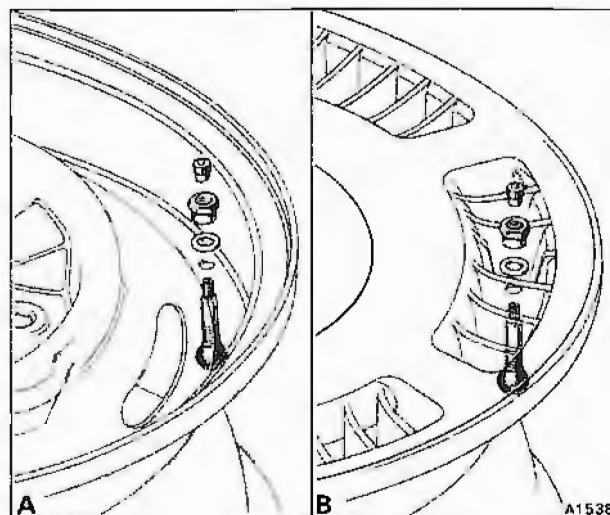

Fig. R3-1 Clamp-in tyre valves
3. Insert the valve into the hole in the wheel rim, then fit the valve securing nut and washer (see fig. R3-1). When fitting a new valve, **do not** use tyre bead lubricant or grease of any kind. Using a 14 mm ($\frac{9}{16}$ A/F) long reach socket, torque tighten the nut to between 2,9 Nm and 3,3 Nm (29,9 kgf cm and 33,4 kgf cm; 26 lbf in and 29 lbf in). **Do not overtighten.**
2. Insert the valve into the rim, then fit the valve securing nut and washer (see fig. R3-1). When fitting a new valve, **do not** use tyre bead lubricant or grease of any kind. Using a 14 mm (9/16 A/F) long reach socket, torque tighten the nut to between 2,9 Nm and 3,3 Nm (29,9 kgf cm and 33,4 kgf cm; 26 lbf in and 29 lbf in). **Do not overtighten.**